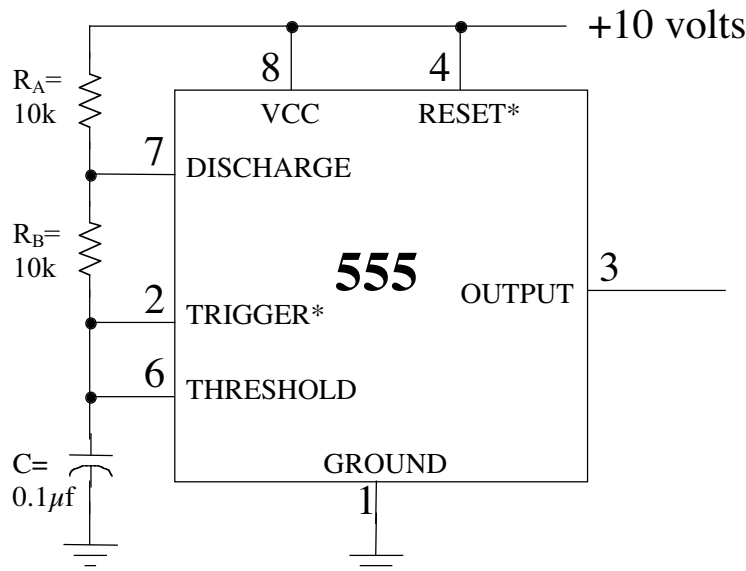

Figure 5. 555 relaxation (astable) oscillator
The 555 and similar chips have made the design of relatively complex circuits such as oscillators relatively easy. An RC circuit connected to the 555 as shown in Figure 5 alternately charges and discharges. The frequency of these changes (the oscillation frequency) is claimed by the manufacturer to be approximately given by
- Construct the 555 relaxation oscillator shown in Figure 5.
- Construct the circuit from Figure 5, replacing R_A with a $22k\Omega$ resistor and replacing R_B with a short circuit (a wire).